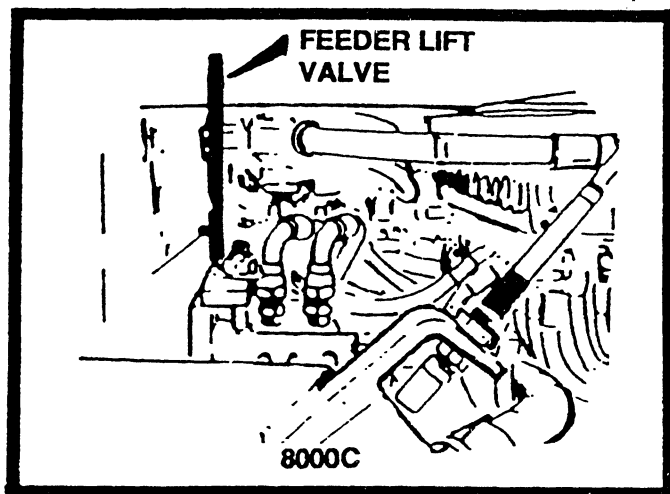

FIGURE 41
2. Raise feeders by pushing feeder lift valve forward. The location of this valve has purposely been placed in an inconvenient position to prevent the accidental raising of the feeders. See figure 41 and 42.